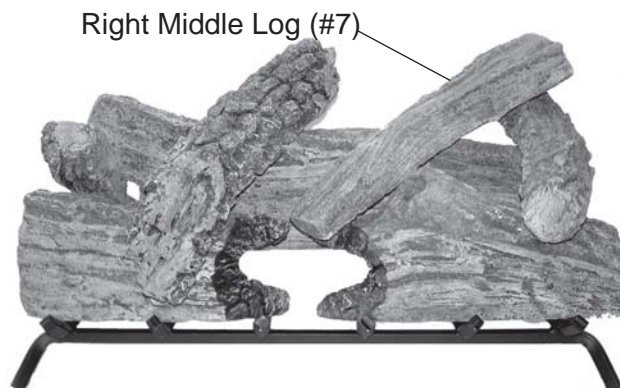

Figure 118 - Installing Right Middle Log (#7)
8. Place front of Right Middle Log #7 on top right of Log #1B. Rest back end of Log #5 on top right of Log #4. See Figure 118.